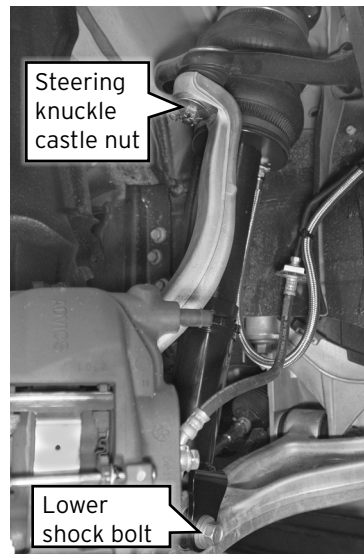

Fig. 8
4. Use the jack to align the shock mount with the lower control arm attaching point. Insert the lower shock bolt from the rear of the shock. The nut has its own stopper. Do not rotate the nut against the control arm. Torque the bolt at ride height (Fig. 8).